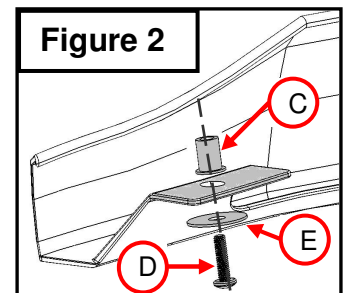

Figure 2
3. Attach supplied hardware to hood shield. **(Figure 2)** Mark for pre-drill holes using a marker and referencing the slots in the Putco Hood Shield.
(Figure 2). Utilisez un tournevis pour insérer l'écrou-douille.